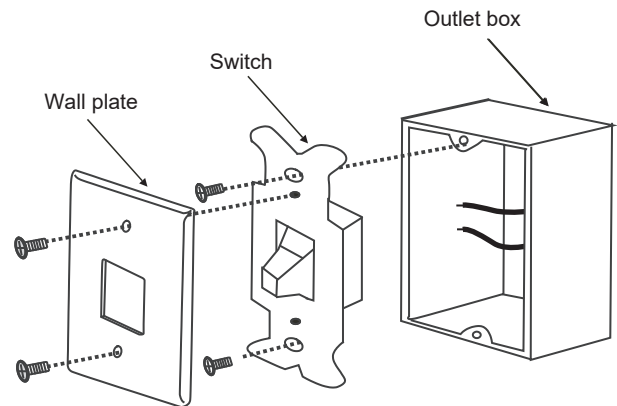

Figure 15
a. Remove the existing wall plate and the old switch from the wall outlet box. Wire nut the BLACK leads (hot) together and push back inside the outlet box. (Fig. 15)